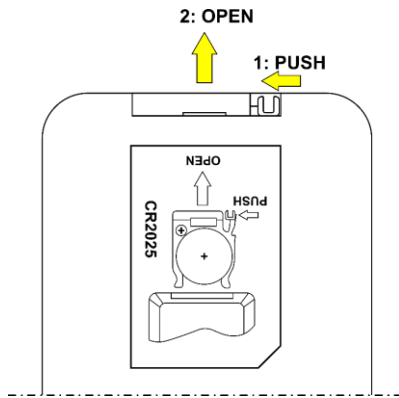

Fig. 08
- 01) Press on one side of the remote and open the **battery housing** (Fig. 08).